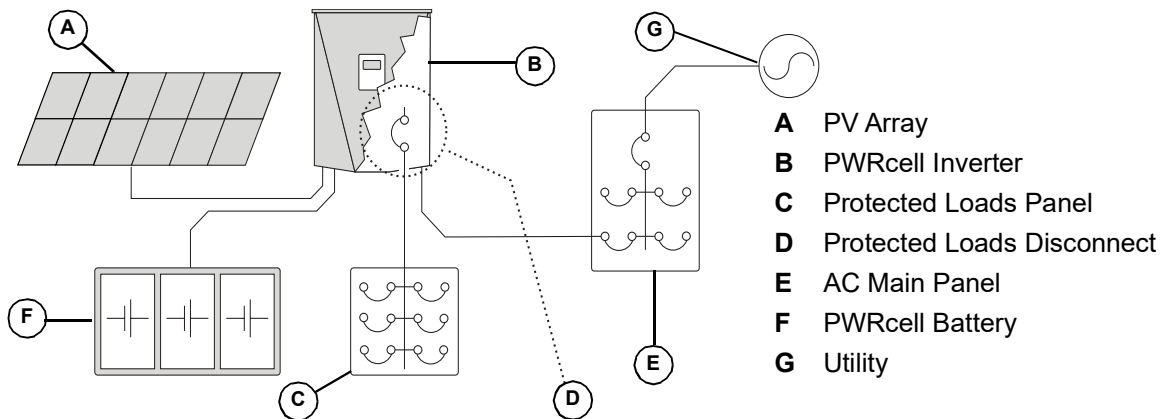

Figure 5-8. Single Inverter Backup Installation with Protected Loads Panel
See **Figure 5-8**. The PWRcell Inverter is configured to pass grid power from AC grid terminals through to the protected loads terminals so long as the Protected Loads Disconnect is in the ON position. This includes when the inverter is disabled. During a grid outage, internal relays inside the inverter isolate the AC grid connection and the
4. See **Figure 5-8**. When configured to backup a protected loads subpanel the PWRcell Inverter can provide up to 7.6 kW of continuous power.